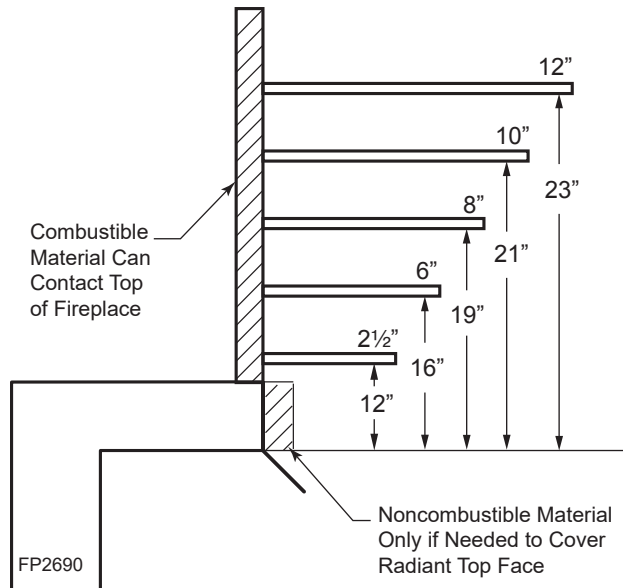

Figure 5 - Mantel Clearances
- ▶ 4. **Mantel clearances:** The canopy supplied with the unit must be installed. If a combustible mantel is installed, it must meet the clearance requirements as shown in *Figure 5*. However, if lower mantel height is desired, refer to *Figure 6*.